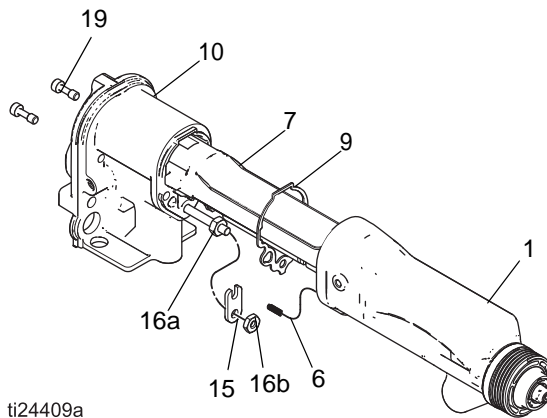

FIG. 36 . Barrel Installation
See FIGURE 36
3. Loosen the two screws (19). See FIGURE 36.
4. Hold the gun body (10) with one hand and pull the barrel (1) straight off the body. See FIGURE 36.